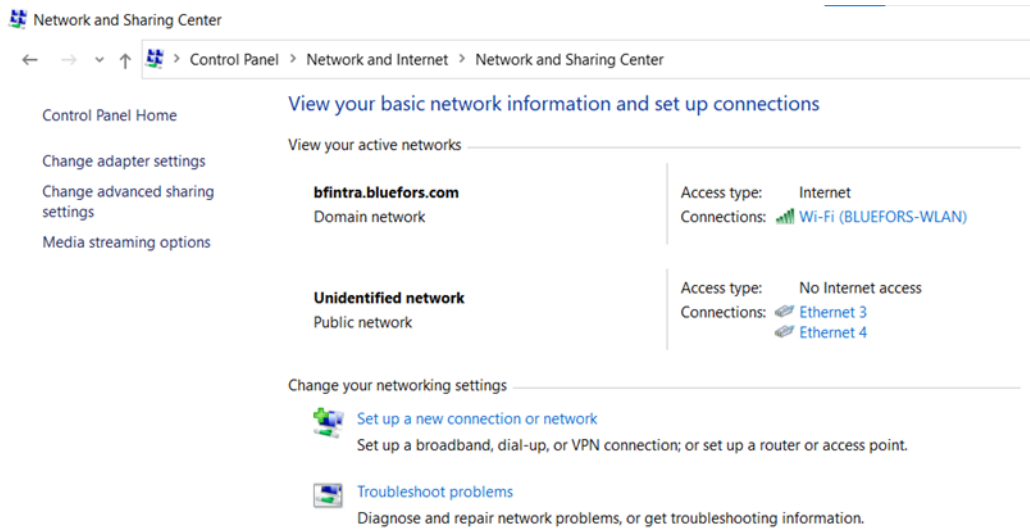

Figure 6: Setting the IP – Network and Sharing Center
1. On your Windows computer, go to Control Panel → Network and Internet → Network and Sharing Center (see Figure 6).